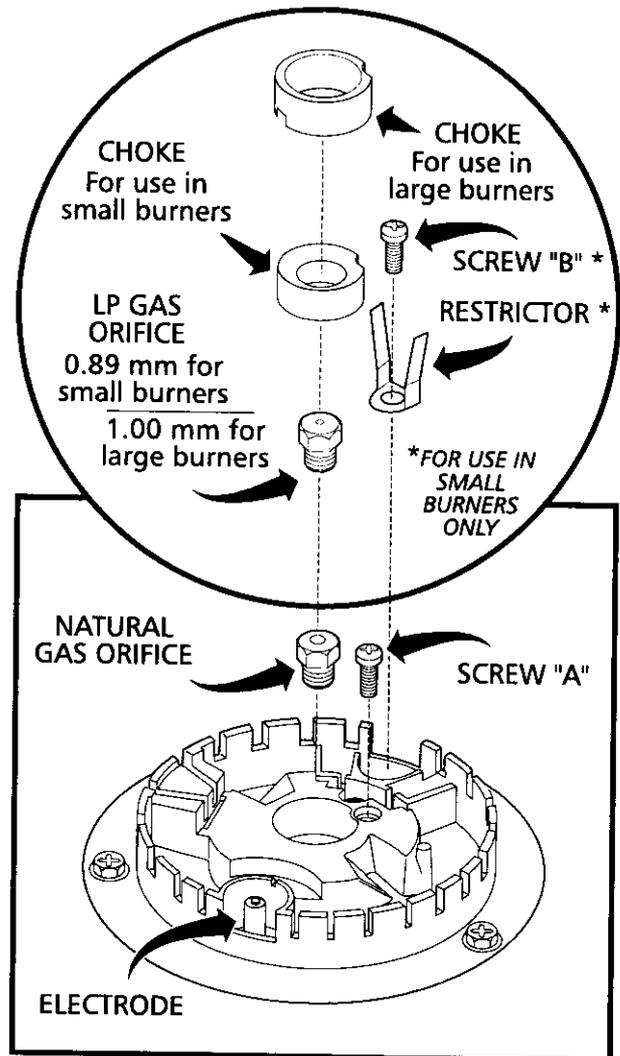

FIGURE 4
2. Convert Surface Burners for use with LP/Propane Gas (see Figure 4)
- Remove screw "A". Insert large choke with smaller inside diameter up and cutout down, as shown in Figure 4. Replace screw "A". Be sure screw head is in line with recess on choke.